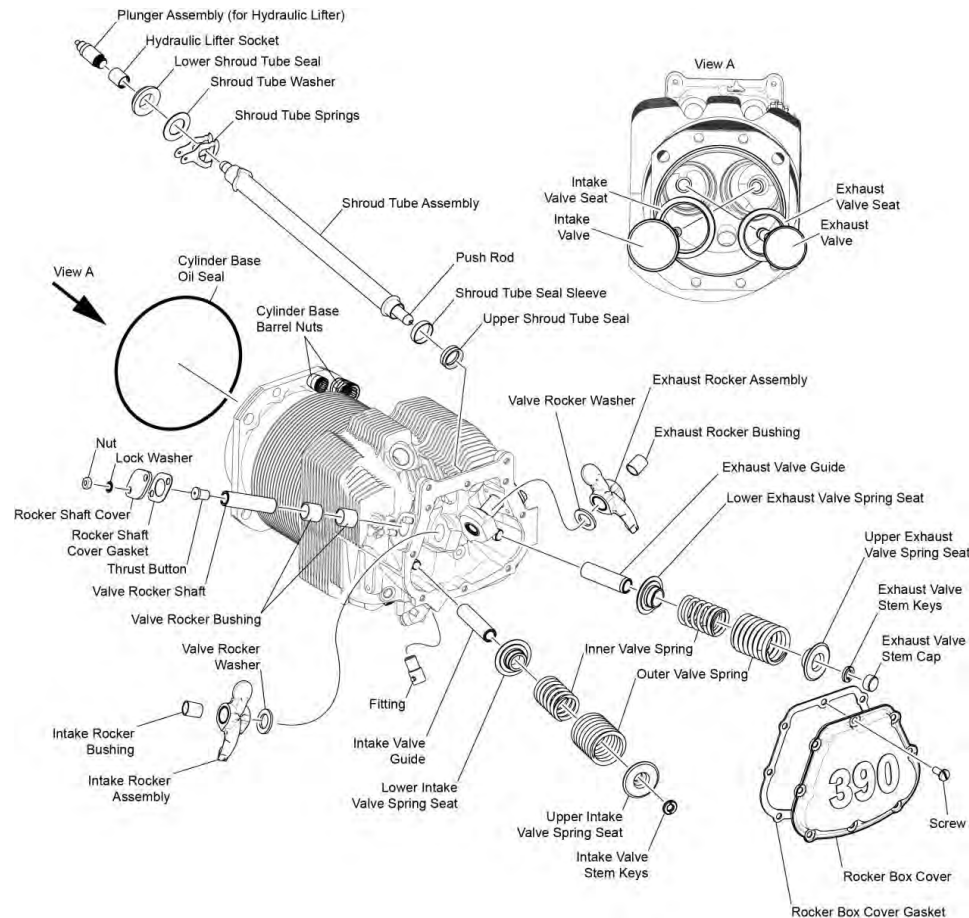

Figure 5
- (3) Remove the screws, rocker box cover (Figure 5) and gasket from the cylinder head. Discard the gasket.
- (4) Remove the nuts, lock washers, rocker shaft cover, and rocker shaft cover gasket. Discard the lock washers and rocker shaft cover gasket.
- (5) Remove the valve rocker shaft, valve rocker shaft bushing, rocker assembly, and washer.
- (6) Remove the valve stem cap from the exhaust valve.
- (7) Remove and examine the valve stem keys which tend to wear in uniform distinctive patterns. Replace worn or damaged valve stem keys. If the keys do not need to be replaced, install them in the same position from where they were removed.
NOTICE: Do not confuse “valve spring seats” with “valve seats,” valve spring seats (Figure 5) are metal disks installed on the ends of the valve springs in the rocker box and are field replaceable. Valve seats (Figure 5, View A) are installed inside the cylinder as the surface where the intake or exhaust valve rests during engine operation when that valve is closed. Valve seats only can be replaced by an authorized vendor.
- (9) Use a cloth dampened with mineral spirits to wipe the oil from the top surface of the upper exhaust valve spring seat on the exhaust valve (Figure 5).
- (29) If removed, examine and install acceptable plunger assemblies and hydraulic lifter sockets in the correct location. Refer to the latest revision of Service Instruction SI-1011 for plunger assembly inspection guidelines.
- (30) Install all of the seals, washers, sleeve, springs, shroud tubes, and push rods (Figure 5) on the cylinder.
- (32) Install the rocker assembly, valve rocker shaft bushing, washer, and valve rocker shaft (Figure 5).
- (33) Install the valve rocker shaft cover with a new valve rocker shaft cover gasket with new lock washers and nuts. Torque the nuts to 96 in.-lb. (11 Nm).
- (34) Install the screws, rocker box cover with a new gasket on the cylinder head (Figure 5). Torque the screws per the Special Torque Requirements Table in the latest revision of the *Service Table of Limits - SSP-1776*.
- (35) Enable power to the engine.
- (36) Complete the “Operational Ground Check” in Chapter 72-00.